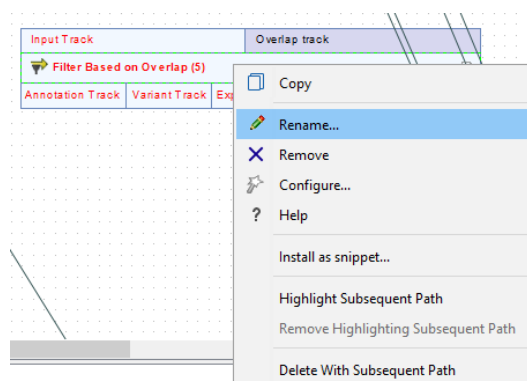

Figure 10: Rename the element "Filter Based on Overlap" to make it easier to keep track of what the aim of this step in the workflow is.
15. Rename the element you just added by right-clicking on its name and selecting the option "Rename" in the menu that appears, as shown in figure 10.